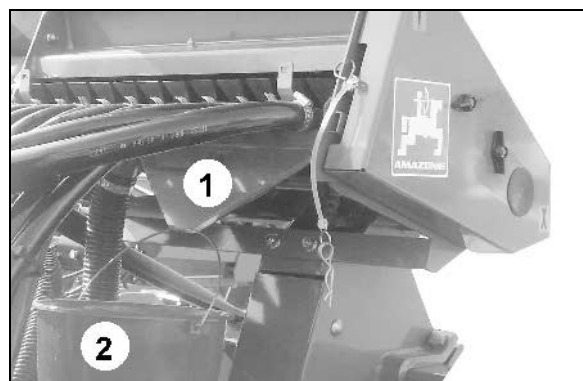

Fig. 24
4. Place the collection tray (Fig. 24/2) underneath the outlet (Fig. 24/1)